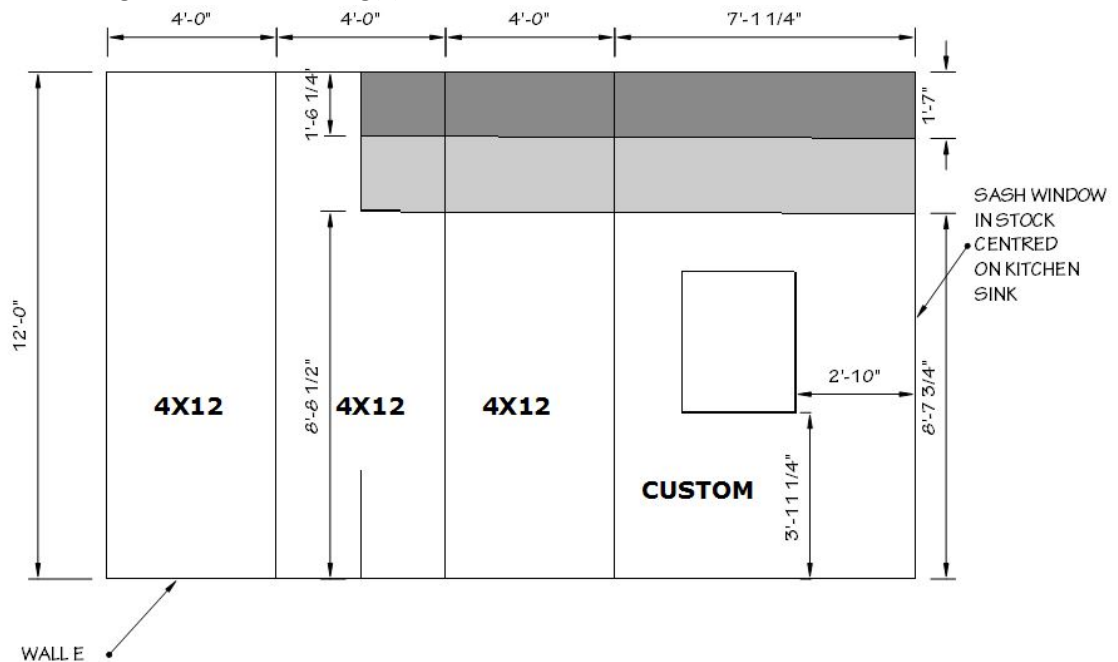

Fig 10. Wall elevation detail
1. WHERE AT ALL POSSIBLE, DESIGN YOUR ARCHITECTURAL ELEMENTS IN 4 ft. INCREMENTS. THIS MAKES MOST EFFICIENT USE OF AVAILABLE MATERIALS AND MAKES RE-USE POSSIBLE. See Fig. 10
- i. The shaded areas in Fig 10 relate to the valence, (light grey) and black painted areas on this wall.